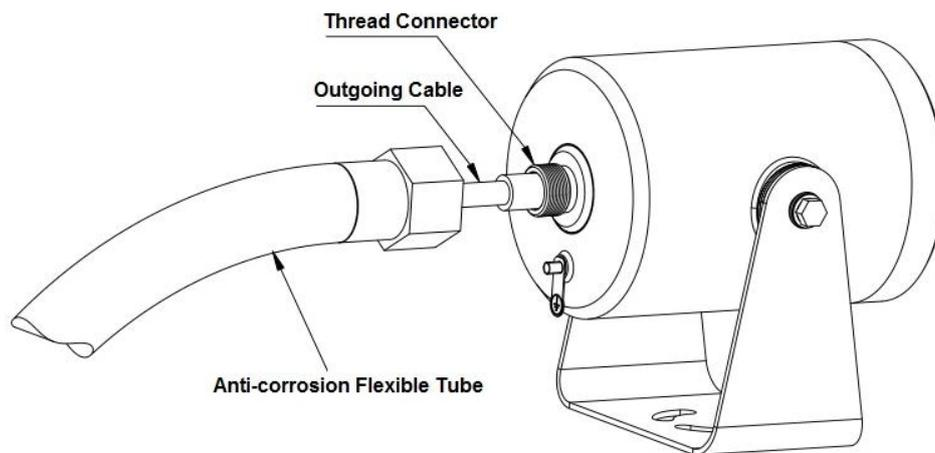

Figure 3-1
Step 1 Cover anti-corrosion flexible tube component on the cable in advance, which is shown in Figure 3-1.